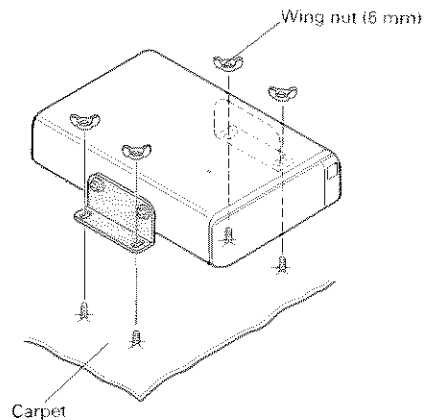

Fig. 6
6. Fit the player onto the mounting screws and secure the assembly with the wing nuts, tightening them firmly. (Fig. 6)